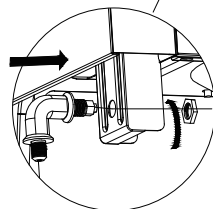

Figure 3
- c) Attach the side burner nozzle onto the bracket under the Right Side Shelf as shown in Figure 3.